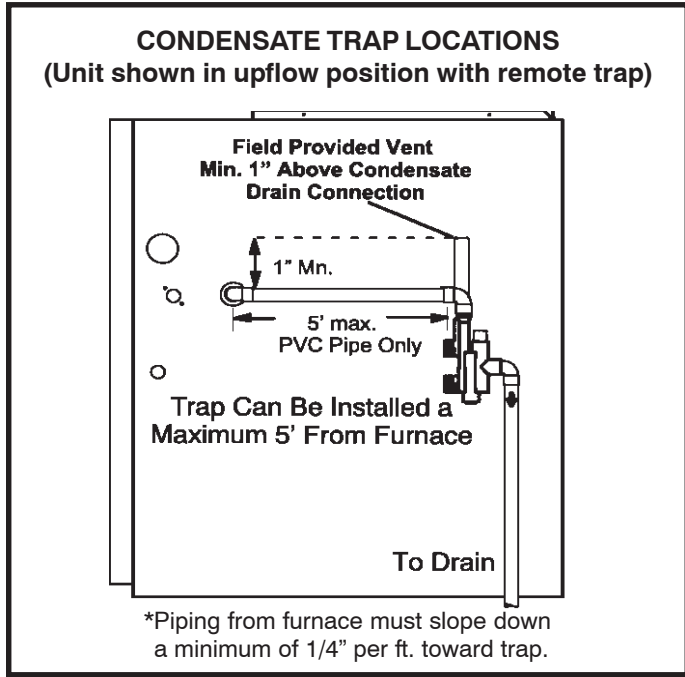

Figure 42
5. Installed field provided vent on trap assembly as shown in Figures 42 through 45. Trap must extend at least 1" above the furnace condensate drain connection in upflow applications and 4-1/2" above the bottom of the cabinet in horizontal applications.